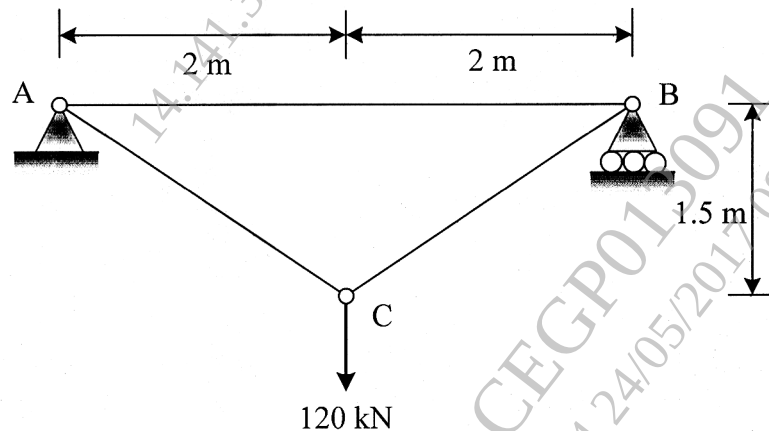

Fig. 2
3. (a) Find the vertical displacement of joint C for the pin jointed truss as shown in Fig. 2. The cross sectional area of the members AC and CB are 800 mm^2 and the areas of the members AB is 1000 mm^2 . Take $E = 200 \text{ kN/mm}^2$. [6]